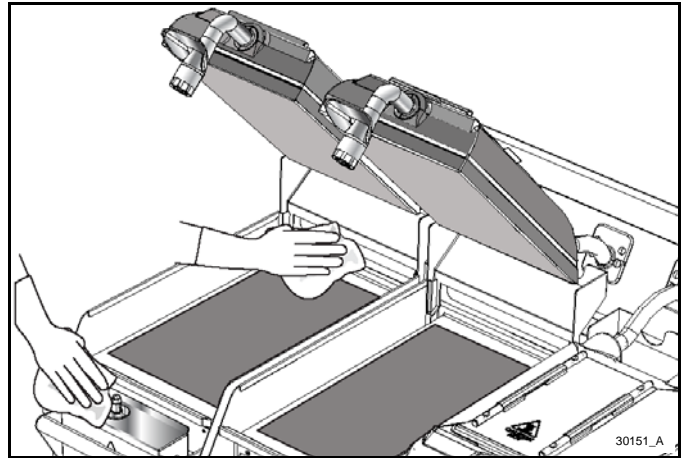

Figure-92
7. As needed during operation, use a sanitizer-soaked grill cloth to clean the rear grease shield and the bullnose areas. See Figure-92.